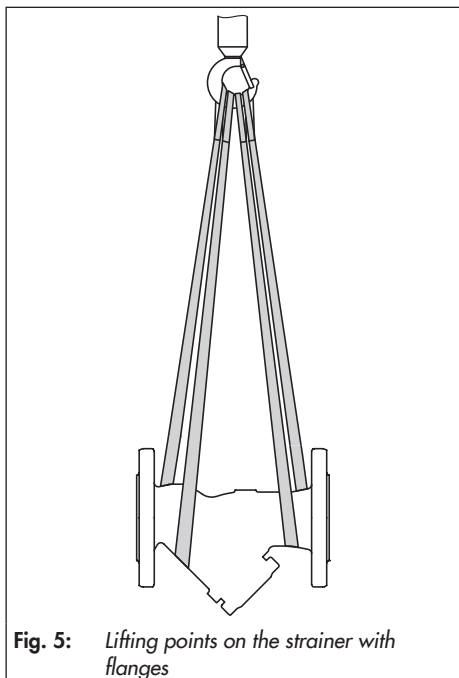

Fig. 5: Lifting points on the strainer with flanges
1. Attach one sling to each flange of the body and to the rigging equipment (e.g. hook) of the crane or forklift (see Fig. 5).
SAMSON recommends using a hook with safety latch (see Fig. 5 and Fig. 6). The safety latch prevents the slings from slipping during lifting and transporting.